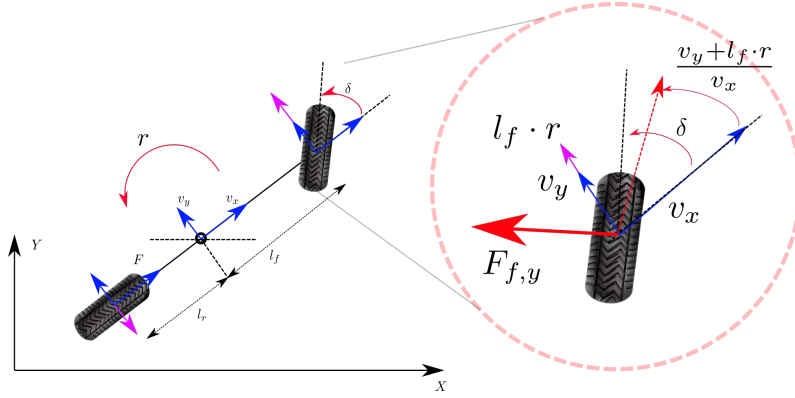

Figure 4: Force applied on the front wheel
While we do not step into describing the details of the dynamics, we want to give a hint the why the forces applied by the tires are modeled as in (10), by focusing on what happens to the front wheel when the vehicle is turning. Looking at Figure 4 we see that the velocity of the front wheel is given by the velocity of the center of mass, plus a small component in the y direction due to the rotation of the vehicle (purple arrow). For the front wheel, this additional component is equal to